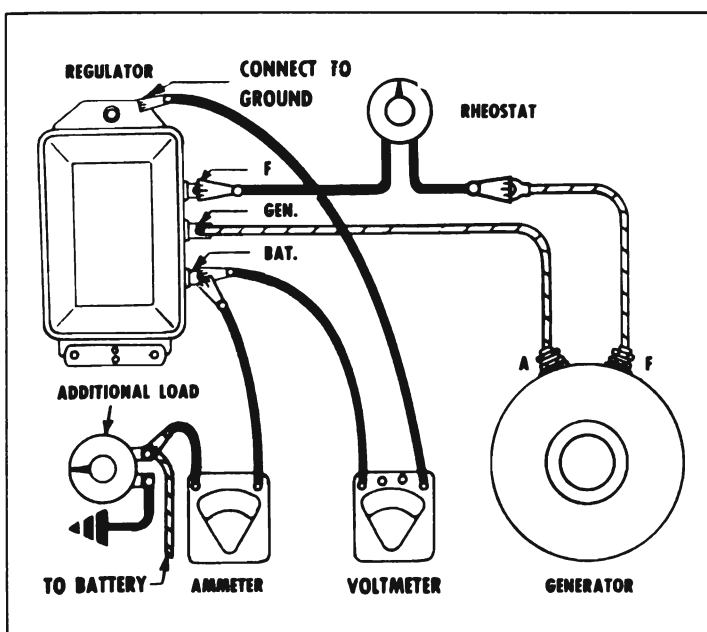

Figure 10-18—Testing Current Regulator
15. Turn on all accessory load (lights, radio, blower, etc.) and connect an additional load from the charging circuit to ground and connect ammeter as described in your test instrument pamphlet. Adjust load to lower voltage to 13.0 volts. See Figure 10-18.